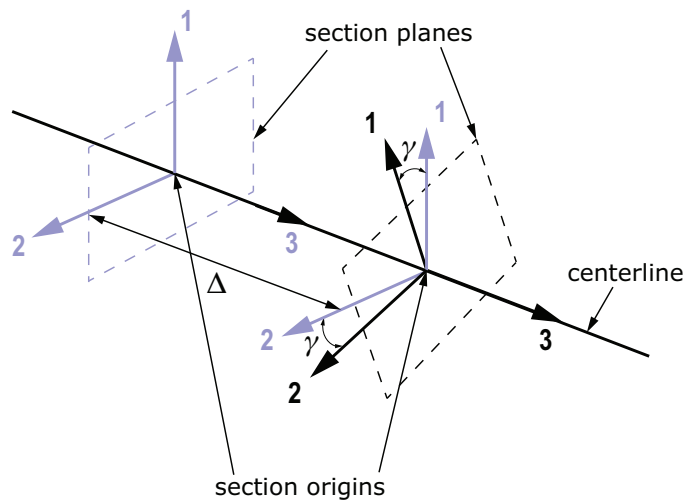

Figure 2: Pretorsion.
3. Pretorsion of the cross-section orientations along the beam centerline in radians per unit length. (See Figure 2.) The default is 0.0.